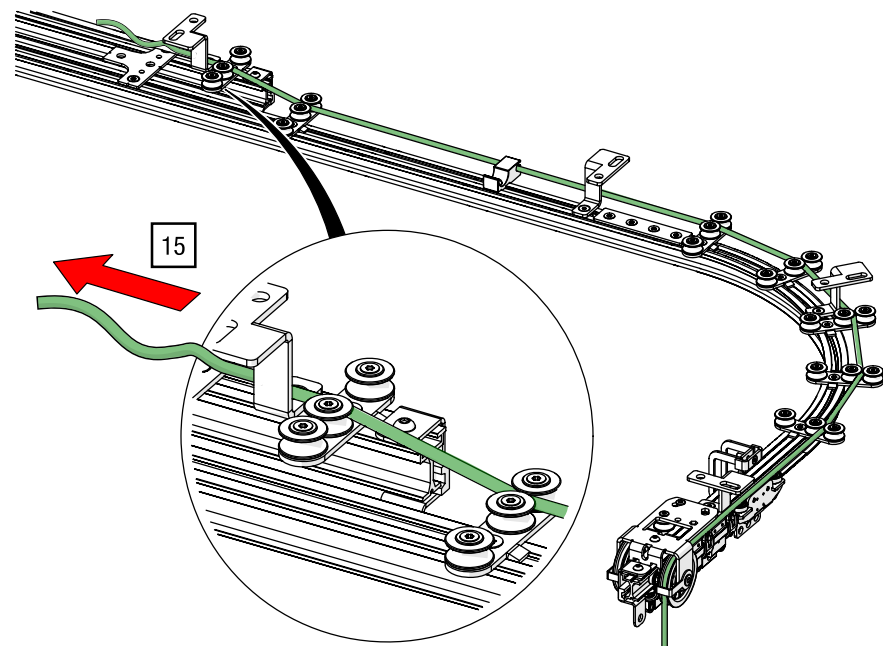

Fig. 97: Top cord operation – Guiding the cord to the second track run
15. Guide the end of the cord through the two return pulleys onto the second track (see Fig. 97).